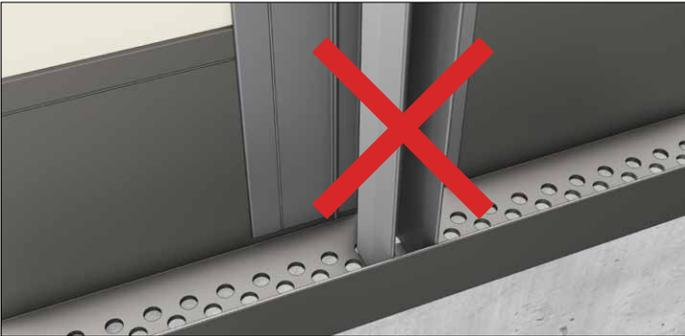

Figure 18.2
13. Do not overlap trims. (Figure 18.2)